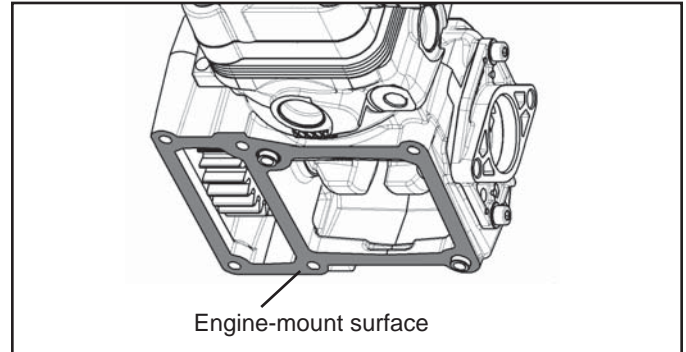

FIGURE 4 - COMPRESSOR TO ENGINE MOUNTING SURFACE
- Carefully remove all sealant gasket material adhering to the machined mounting face of the crankcase. See Figure 4. Make certain not to scratch or mar the mounting surface. Note: Keep the crankcase opening covered to prevent any of the sealant material from entering. Repeat this process on the engine mounting face as well. Follow the instructions contained in the
1. Apply a liquid gasket sealant to the compressor / engine mounting interface (Refer to Figure 4 for compressor mounting face). Follow the Engine or Vehicle Manufacturers guidelines for the proper liquid gasket sealant material and application procedure.